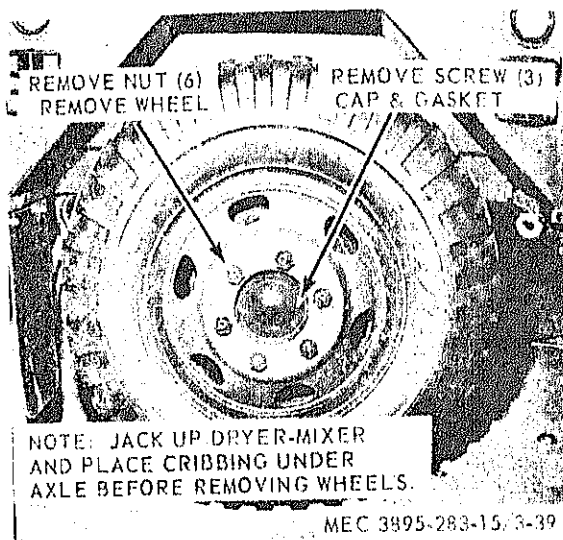

Figure 3-39. Hub and Drum Removal.
(1) Loosen six (6) nuts securing wheel to hub (fig. 3-39).
(2) Jack up axle until wheel is clear of the ground.
(3) Remove six (6) nuts and the wheel.